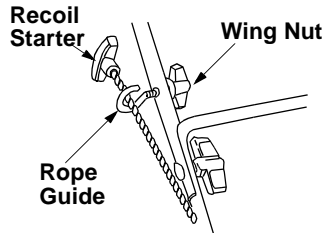

Figure 5
The rope guide is already attached to the right side of the upper handle of your mower. See Figure 5.
- Slip the rope through the rope guide as shown in Figure 5. Tighten the wing nut holding the rope guide to the upper handle.